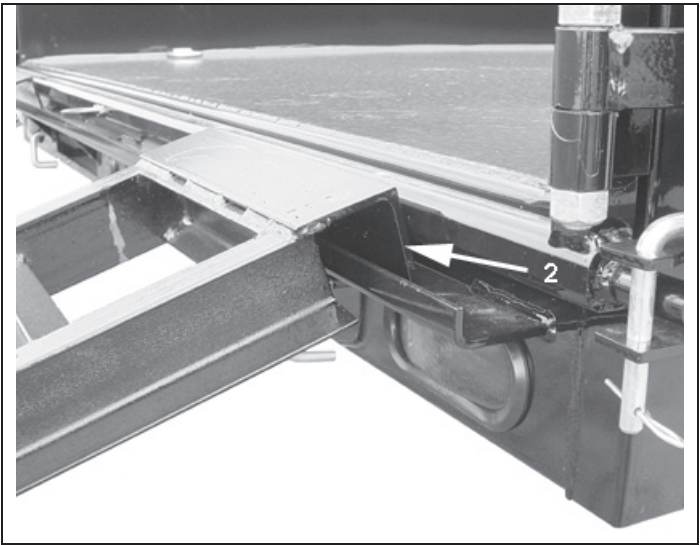

Figure 5-3 - Install Ramps
- Remove ramps from storage position and place bracket (2) on ramps, in channel on trailer. See figure 5-3. Position ramps as needed for the width of the equipment to be loaded.
- Remove ramps from storage position and place bracket (2) on ramps, in channel on trailer. See figure 5-3.